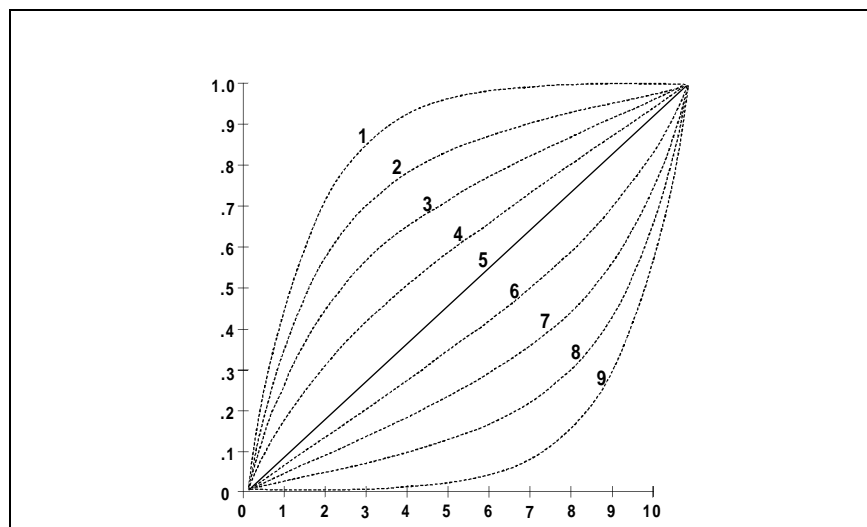

Figure 2-12. Eluent Composition Profile for Curves 1-9
The pump can produce step, linear, concave, or convex curves in eluent concentration over a specified time period. The slope of the gradient is determined by the selected gradient curve (see Figure 2-12) and the time between the starting and
- Slope changes over time become more extreme as curves go from 6 to 9 (more concave) and from 4 to 1 (more convex). Figure 2-12 shows the eluent composition profiles corresponding to curves 1 through 9, normalized for 0-100% for 10 minutes.